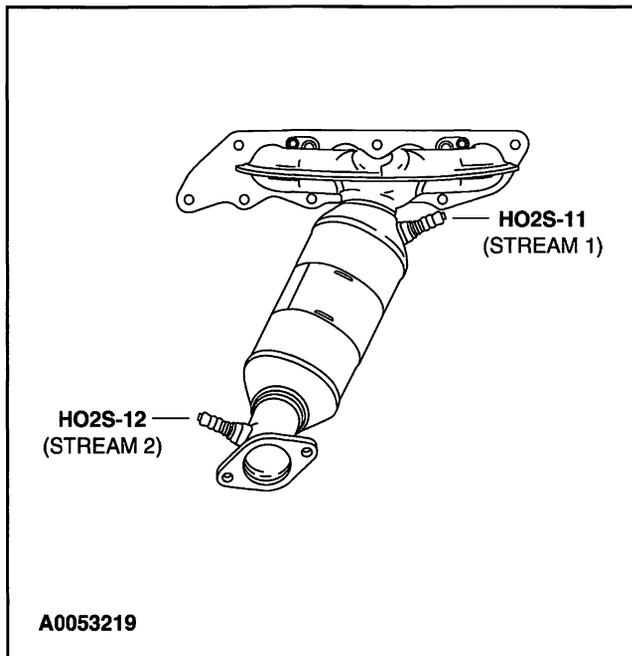

Figure 124: Typical Bank 1 Catalyst Two HO2S Configuration
The purpose of the exhaust system is to convey engine emissions from the exhaust manifold to the atmosphere. Engine exhaust emissions are directed from the engine exhaust manifold to the catalytic converter through the front exhaust pipe. An HO2S is mounted on the front exhaust pipe before the catalyst. The catalytic converter reduces the concentration of carbon monoxide (CO), unburned hydrocarbons (HCs) and oxides of nitrogen (NOx) in the exhaust emissions to an acceptable level. The reduced exhaust emissions are directed from the catalytic converter through another HO2S mounted in the rear exhaust pipe (Figure 124) and then on into the muffler. Lastly, the exhaust emissions are directed to the atmosphere through an exhaust tailpipe.